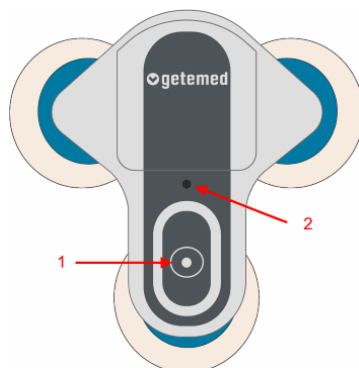

Fig. 1 – Operating elements
The recorder possesses a pushbutton (1), a LED status indicator (2) and a buzzer (Fig. 1).